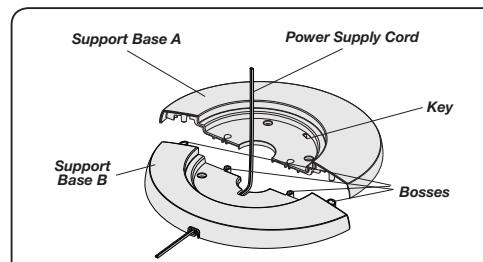
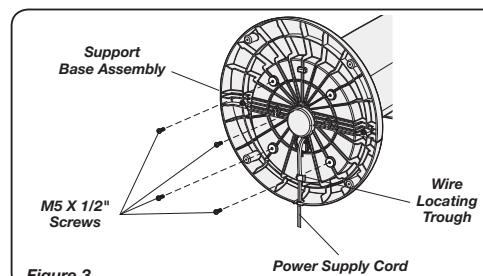

Figure 1
Figure 3
2. Assemble the Support Base Halves by interlocking the bosses on **Support Base A** into the **Boss Holes** on **Support Base B**. Thread the **Power Supply Cord** through the large hole in the center of the **Support Base Assembly**. (Figure 1)
4. Align the **Support Base Assembly** with the **Motor Base**, noting that the cord channel on the bottom of the **support base assembly** should be towards the back of the Fan. Attach the **Support Base Assembly** to the **Motor Base** with (4) 1 1/2" long M5 screws. Make certain to align the **Key** on the **Support Base Assembly** with the **Locating Notch** on the **Motor Base**. (Figure 1) Gently pull any excess slack of the **Power Supply Cord** and place it in the **Wire Locating Trough**. (Figure 3)